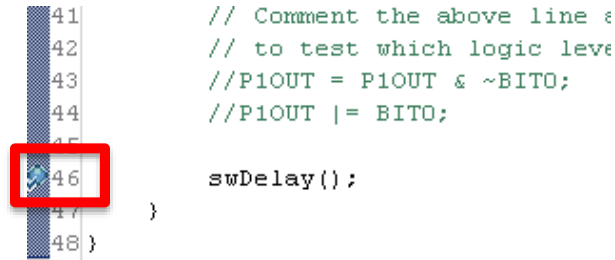

Figure 7: An example breakpoint
16. Often, it is tedious to manually step through your all of code to a point you want to observe. As an alternative, you can set a **breakpoint**, which denotes a point in the code where the debugger should pause the program. To set a breakpoint on a specific line of code, double-click the blue margin next to the line numbers—you should see a blue circle appear where you clicked, as in Figure 7. To test this, set a breakpoint on the call to the `swDelay` function. Then, click the **Run** button a few times—each time, your program will run for a moment and pause when the line is reached again in the next iteration of the loop. Like in the last example, you should see the LED change state with each iteration.